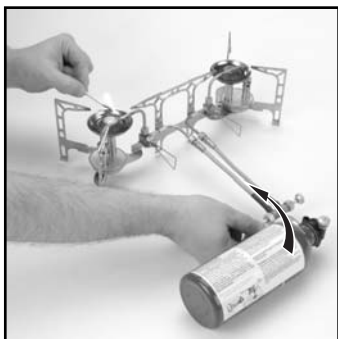

FIG. 32
- Hold lighted match at second burner and then open the second fuel valve (Fig. 32).